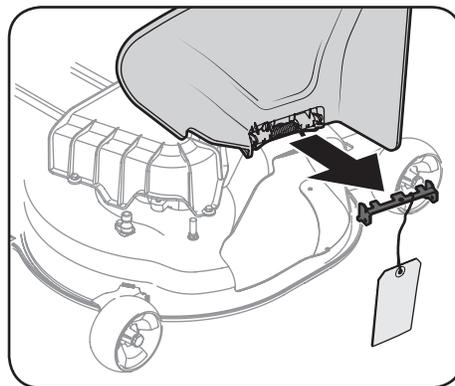

Figure 2-6
7. Holding the chute deflector fully upward, remove the shipping brace. Lower the chute deflector and discard the shipping brace. See Figure 2-6.